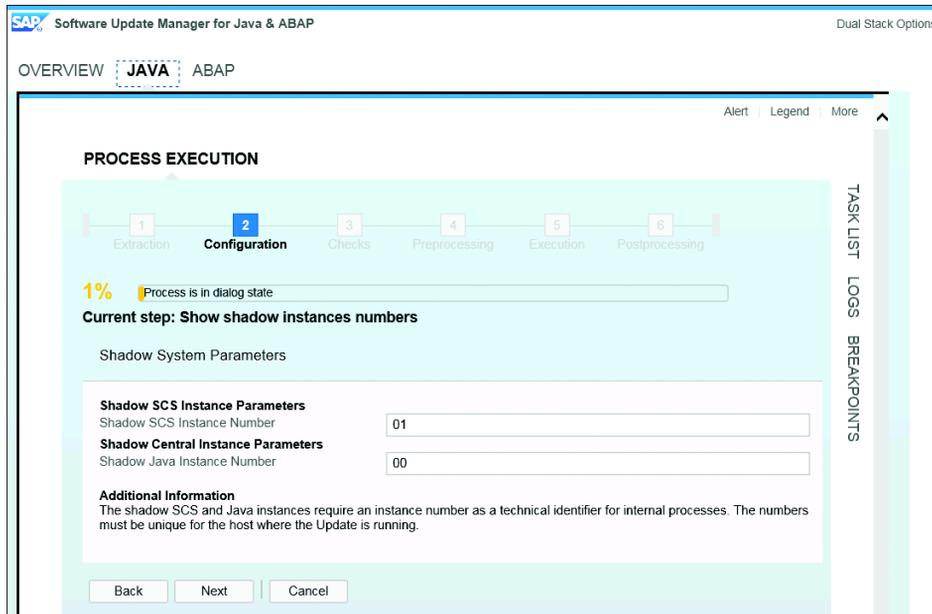

Figure 53 Confirm Shadow Instance Numbers
11. On the Java side of the upgrade, confirm the instance numbers that will be used on the shadow instance. If they need to be changed, make the change and click NEXT (see Figure 53).